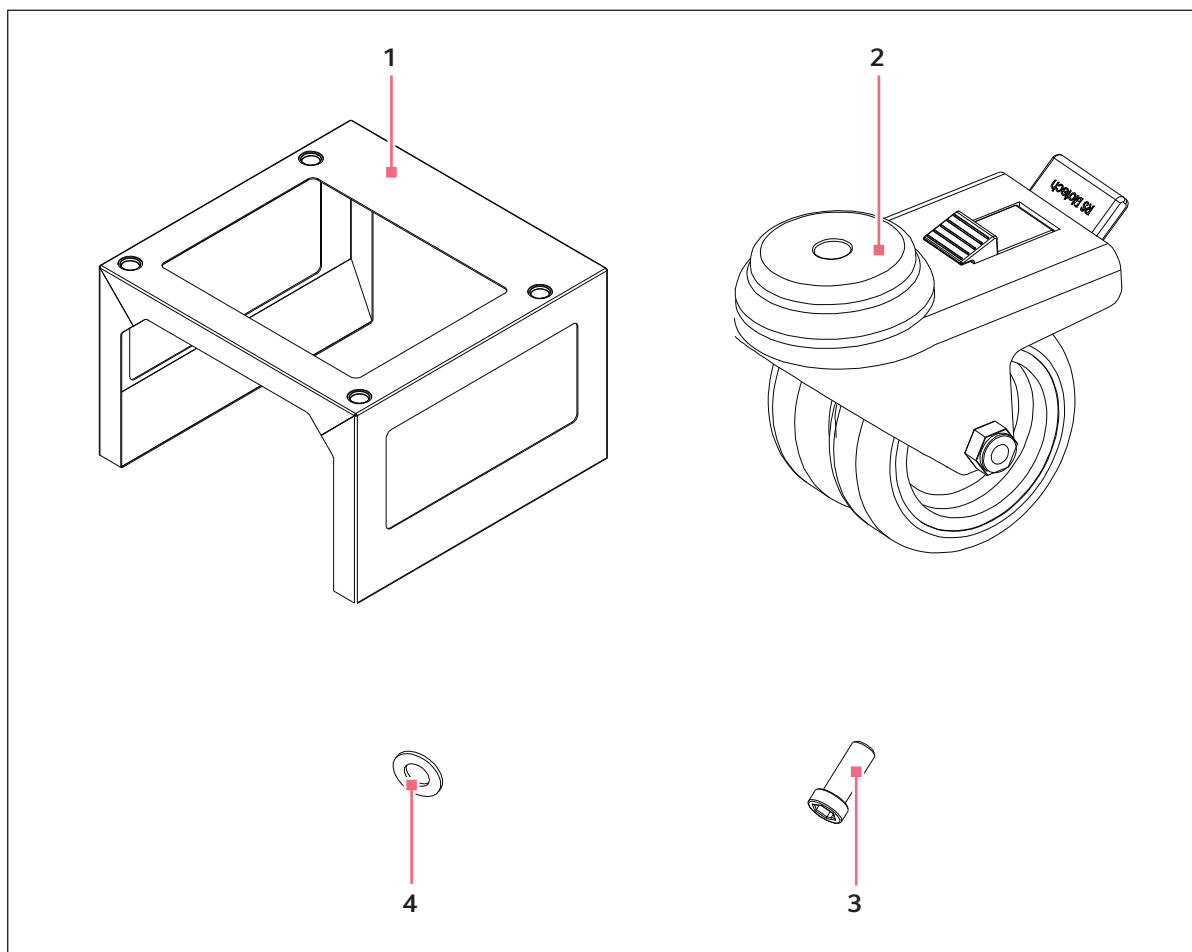

Fig. 12-1: Base stand components
2. Identify Base Stand, Castors, M10 Lock - Nuts and Washers (see Fig. 12-1 on p. 79).